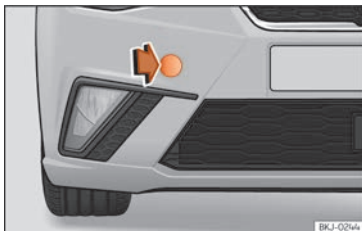

Fig. 99 Right side of the front bumper: remove the lid.
- Remove the front cover by pressing down on its left-hand side » **Fig. 99**.